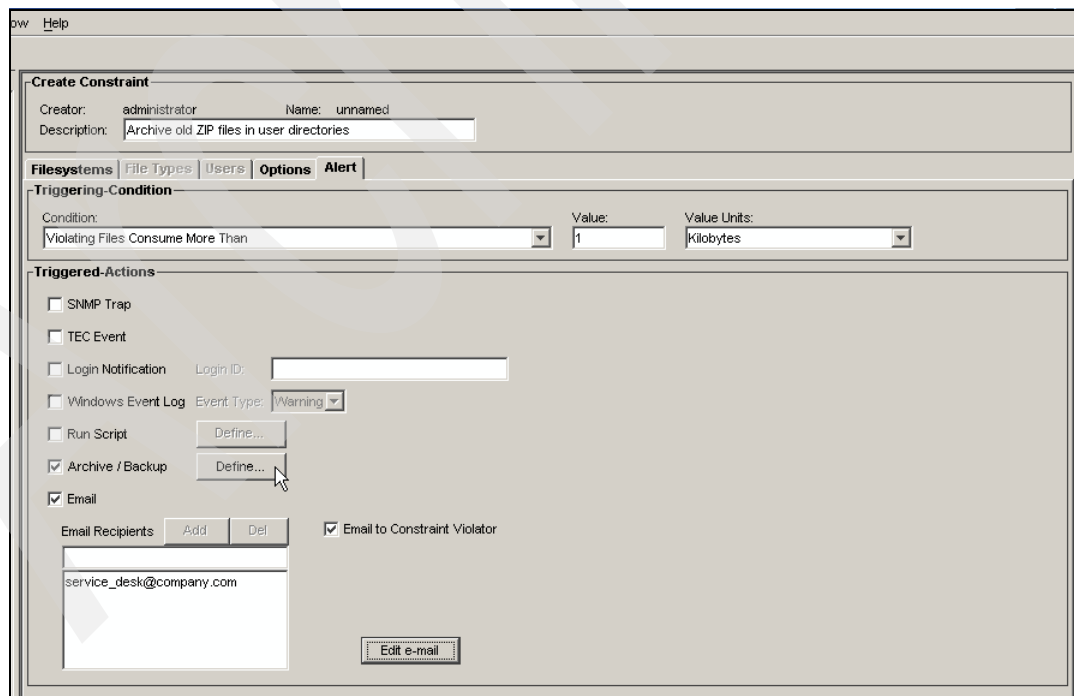
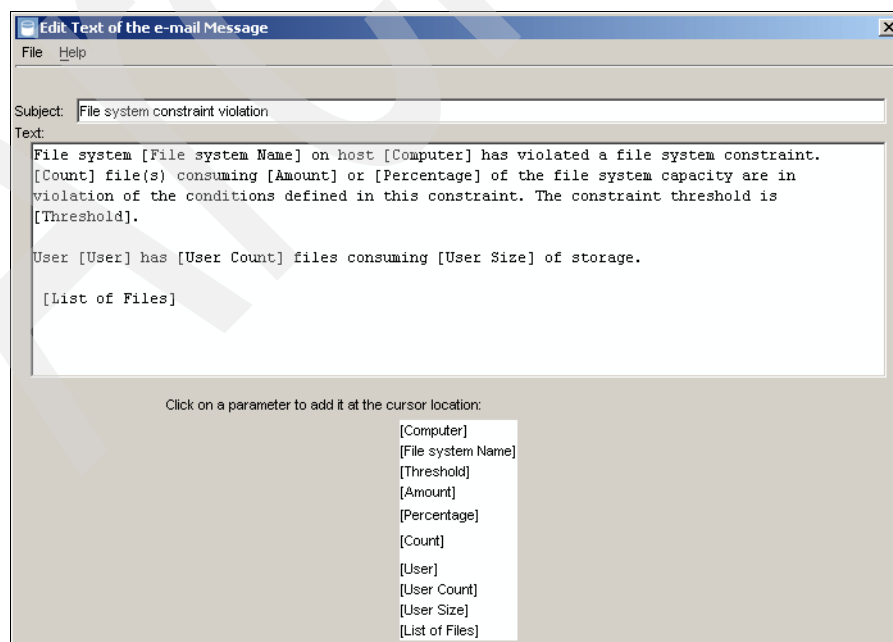

Figure 2-59 Configure Tivoli Storage Manager and e-mail alerting
Figure 2-61 Default system-generated e-mail
6. Select the **Alert** tab to configure Tivoli Storage Manager archiving and e-mail alerting as in Figure 2-59. Set the **Triggering Condition** to **Violating Files Consume More Than 1 Kilobytes** so that all files that meet the filter get archived.
9. In Figure 2-59 on page 56, add an e-mail recipient. This recipient is a storage administrator or monitored account. To send an e-mail to each user that details the user's files that got archived, check **Email to Constraint Violator**. Next, click **Edit e-mail** to create a meaningful e-mail to send to the users who have violated the constraint. Figure 2-61 shows the default system-generated e-mail, which is too generic and unsuitable for informing users about what has happened to their files.